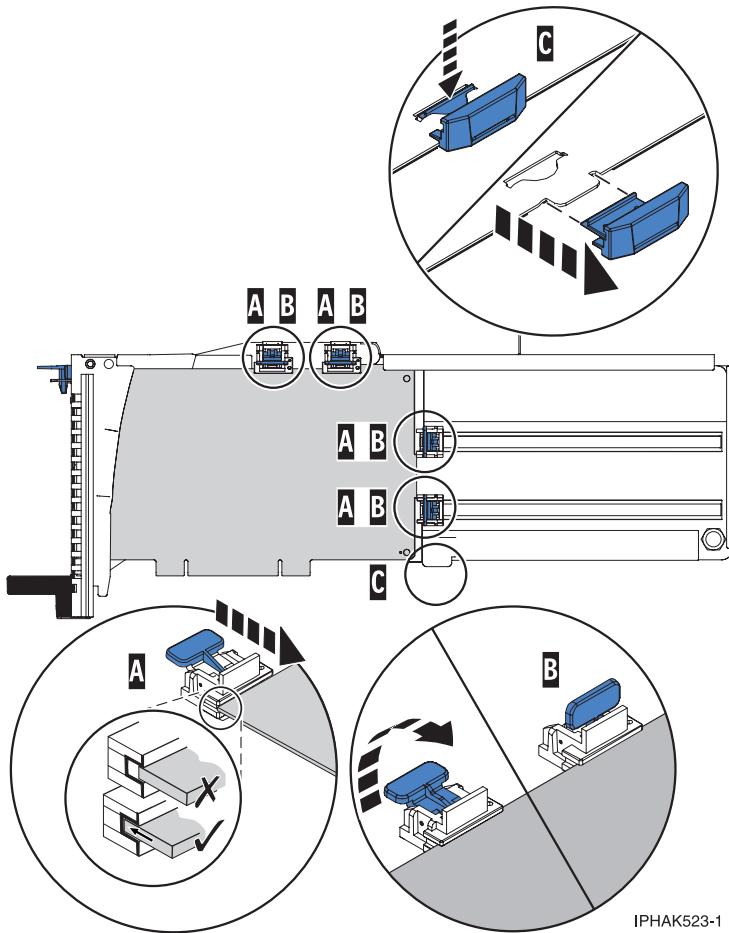

Figure 59. Medium-length adapter in the PCI adapter cassette with the supports in place
- a) Remove the adapter stabilizer (C). See Figure 59 on page 68.
- b) Place and lock the retainers (B).
- c) Ensure the adapter edge is seated in each retainer groove (A). If the shape of the adapter or the presence of a connector will not allow the adapter edge to be seated into the retainer groove, ensure the retainer is still locked firmly against that edge or connector.